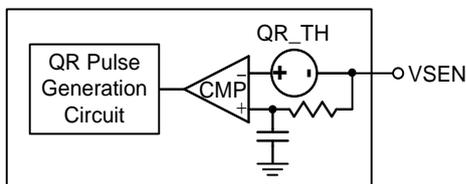

Figure 11. VDDC Controller : Quick Response Triggering Circuit
When the transient load step-up becomes quite large, it is difficult for loop response to meet the energy transfer. Hence, the output voltage generate undershoot to fail specification. The RT3662EB has Quick Response (QR) mechanism which is able to improve this issue. It adopts a nonlinear control mechanism which can disable interleaving function and simultaneously turn on all UGATE one pulse at instantaneous step-up transient load to restrain the output voltage drooping. The output voltage signal behavior needs to be detected so that QR mechanism can be triggered. Refer to Figure 11, the output voltage signal is via a remote sense line to connect at the VSEN pin. The QR threshold can be set by SET1 pin setting for VDDC controller refers to Table 3.